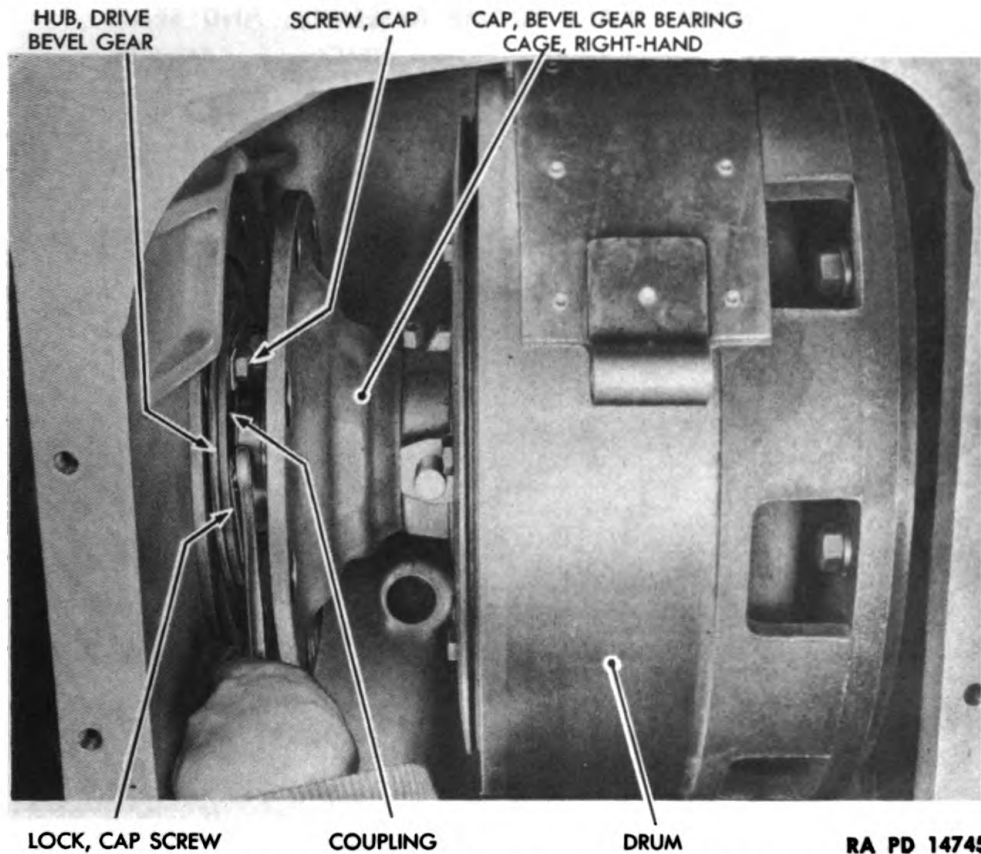

Figure 95 – Disconnecting Clutch Coupling from Bevel Drive Gear Hub
(14) DISCONNECT STEERING CLUTCH SHAFT COUPLING FROM DRIVE BEVEL GEAR HUB (fig. 95).